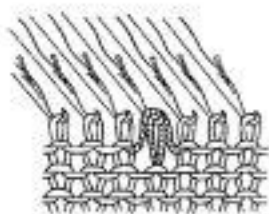

Fig. 52-2
2. Pick up the stitch together with the loose strand of yarn and place them in the needle hook. (Fig. 52-2)